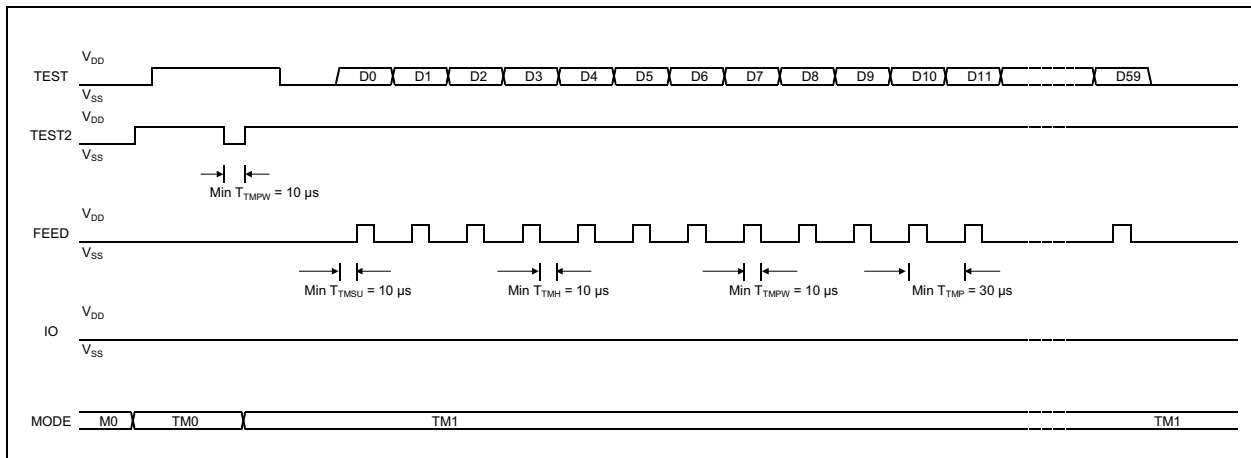

FIGURE 4-3: Timing Diagram for User Feature Selection in Serial Read/Write Mode TM1.
7. After the data are entered into the shift register, pulse IO high for a minimum of 10 ms to store the data in EEPROM. The timing diagram is shown in Figure 4-3.